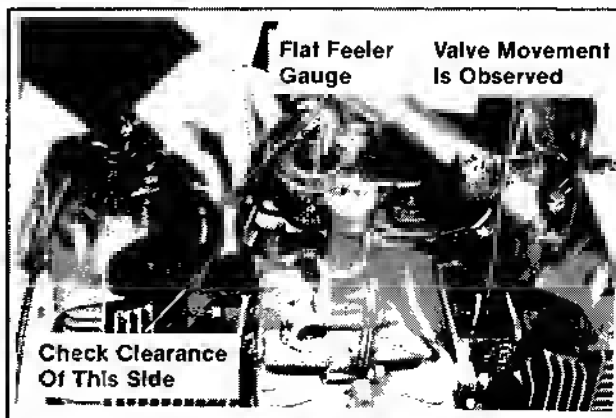

Figure 3-11. Measuring Valve-To-Tappet Clearance.
Every 500 operating hours, remove breather/valve covers and check valve-to-tappet clearance with a flat feeler gauge. Refer to Figure 3-11. The engine must be cold when checking this clearance.
1. Rotate the flywheel and look into the valve boxes. The valves and tappets will move in only one of the boxes. Measure the valve-to-tappet clearance for the cylinder in which **no movement** was observed--use a flat feeler gauge. Refer to Figure 3-11.